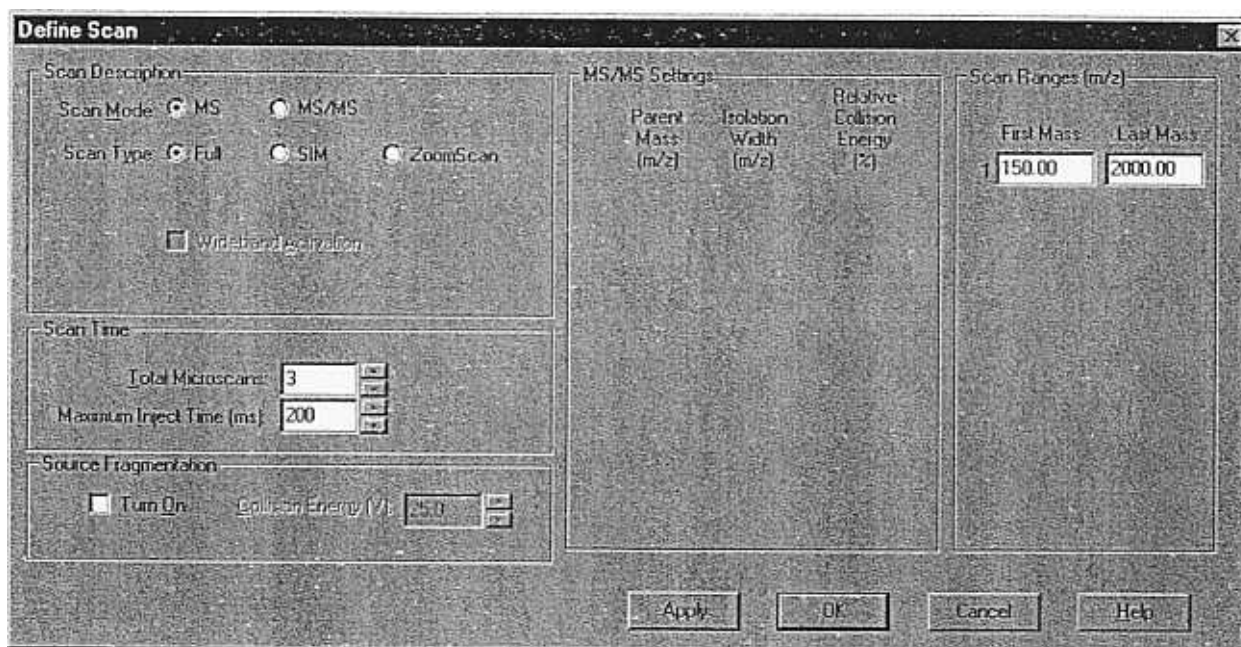

Figure 2-10. Define Scan dialog box, showing the typical settings for ESI/MS operation
Click on the Define Scan button on the Control/Scan Mode toolbar. See Figure 2-10.
- i. Ensure that the settings in your Define Scan dialog box are the same as those shown in Figure 2-10.